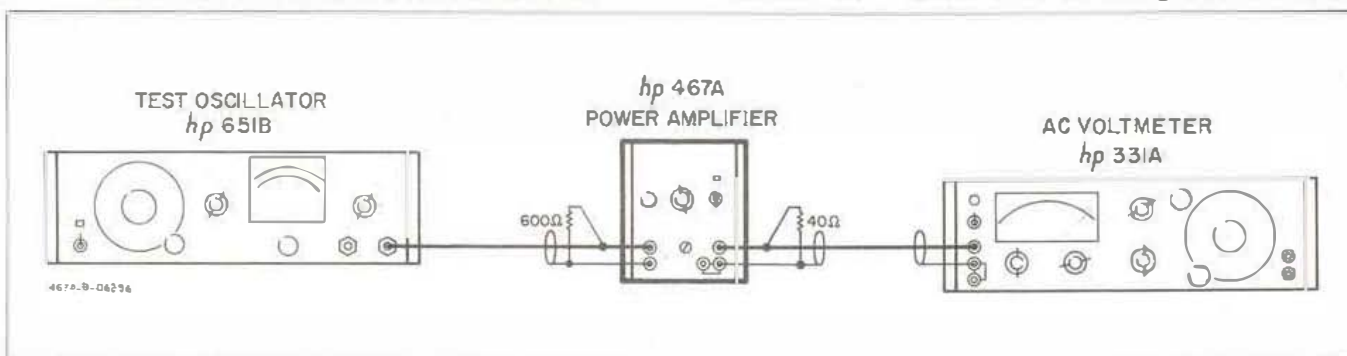

Figure 5-7. High Frequency Compensation Adjustment
- a. Figure 5-7 describes the test arrangement recommended. A Test Oscillator (-hp- Model 651B), 600 ohm and 40 ohm loads and an AC Voltmeter (-hp- Model 331A) will be required.
- b. Connect Model 467A as shown in Figure 5-7. Set Model 467A to AMPLIFIER X10.